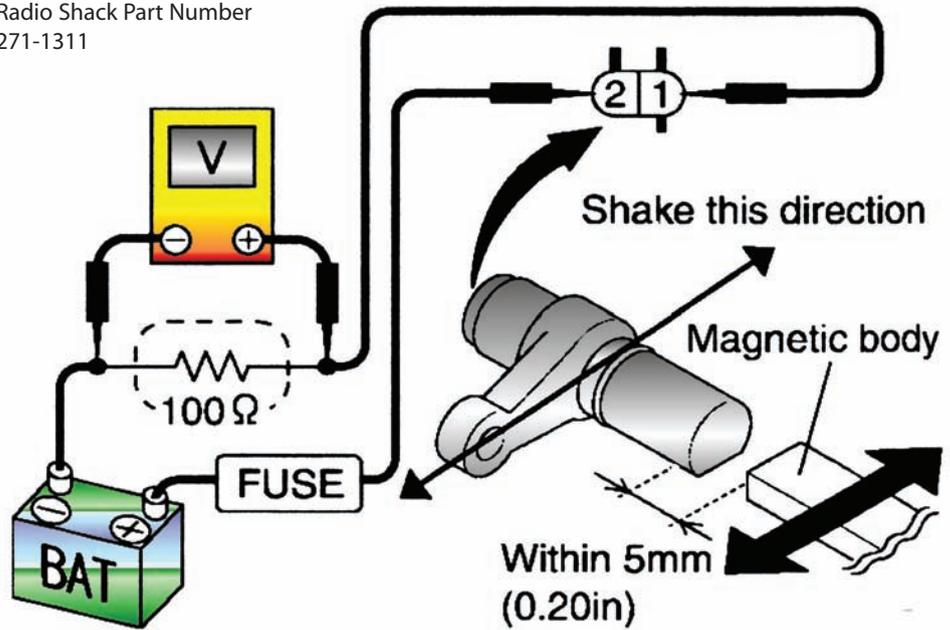

Figure 3
**Wire a 100-ohm resistor and a battery as shown in the diagram (figure 3).**
Wire a 100-ohm resistor (Radio Shack part number 271-1311) and a battery as shown in the diagram (figure 3). Wave a piece of steel back and